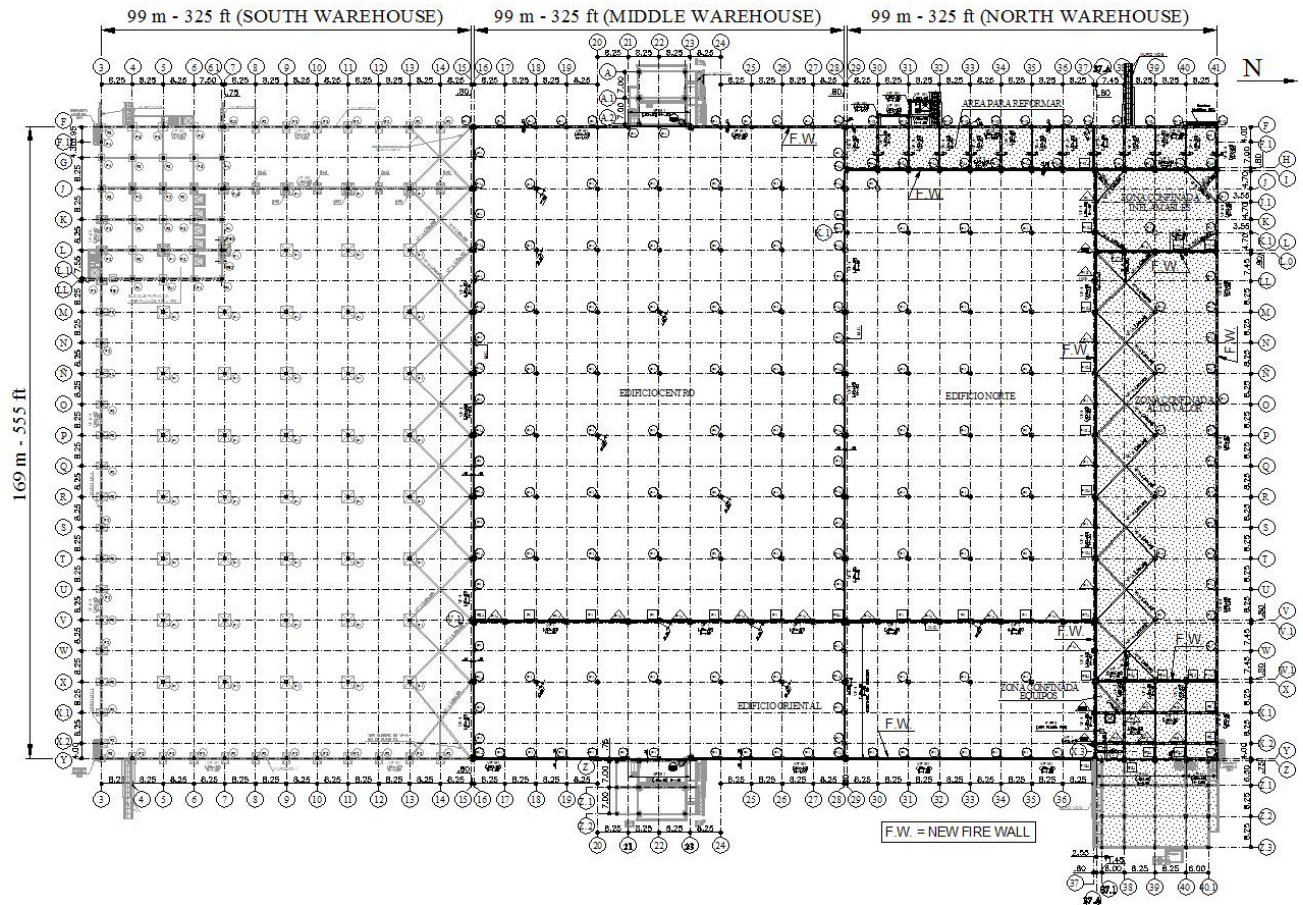

Figure 1 – General Plant
- 1.2 The whole building was divided in 3 blocks (Picture 1 and Fig. 1, 2). The dimensions are indicated in the figures. The height of the columns and walls was variable between 33 ft and 46 ft. For the reconstruction was necessary to consider the most severe specifications to protect the new building against fire. So it was necessary to build new fire walls, 40 ft height supported in the old and new frames using the existing deep pier foundations and much of these were unable to resist additional loads. Many of the piers become new loads that were twice the initial loads and for this reason was necessary to strengthen 61 piers (Piers excavated by hand and cast in place). The reconstruction project should be ready for September 2008, also in five months.
Picture 1 – Distribution Center during the initial construction (Notes: 1. The middle and north warehouses were destroyed by the big fire. 2. For dimensions see figure 1)